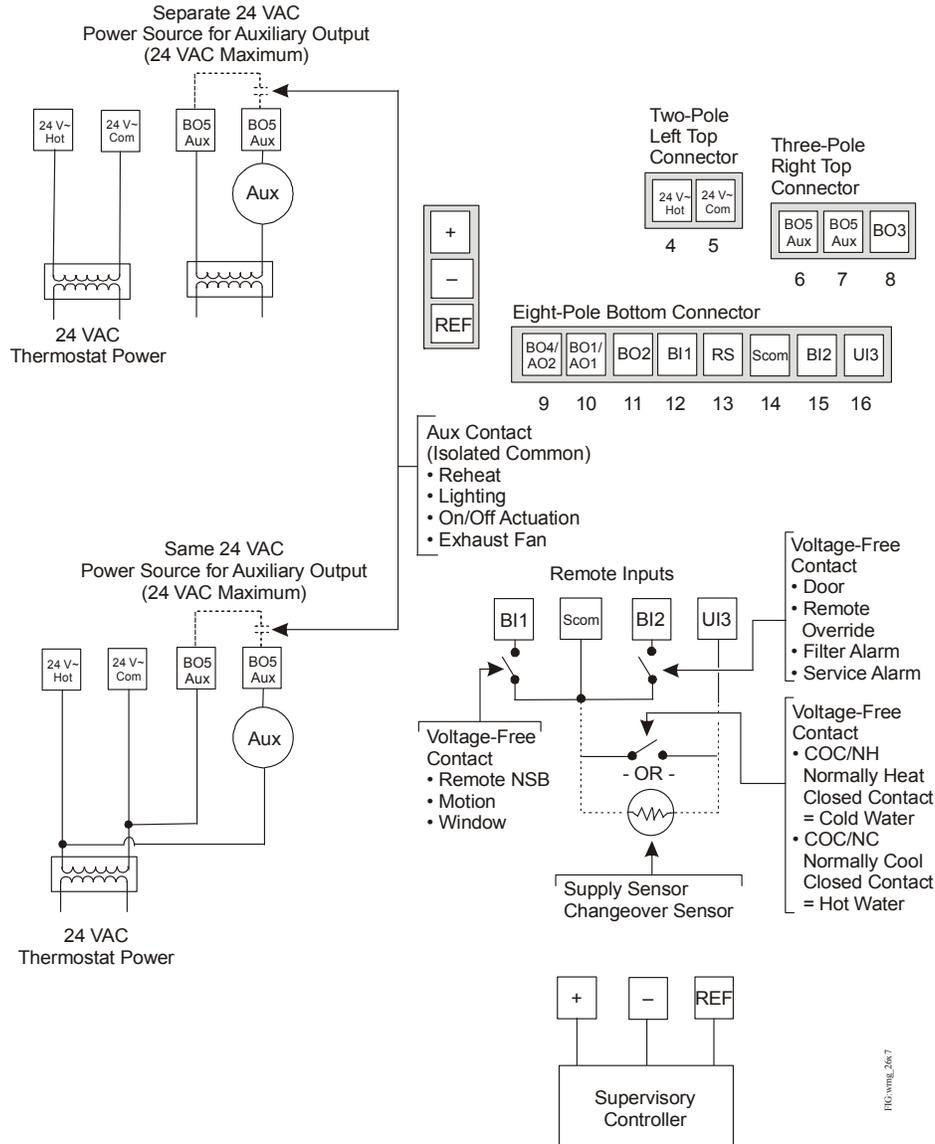
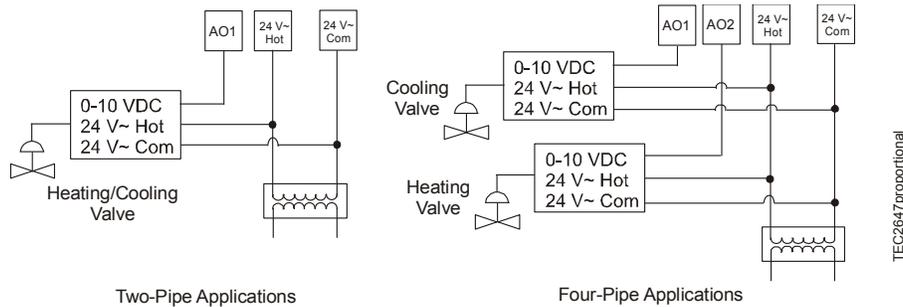

Figure 5: Wiring the TEC26x7-4 Series Thermostat Controller (See Table 1.)
Figure 18: Wiring the TEC2647-4 Thermostat Controller for Proportional Control
1. Strip the ends of each wire 1/4 in. (6 mm) and connect them to the appropriate screw terminals as indicated in Table 1 and Figure 5 through Figure 18.
Table 1: Terminal Identification (See Figure 5.)